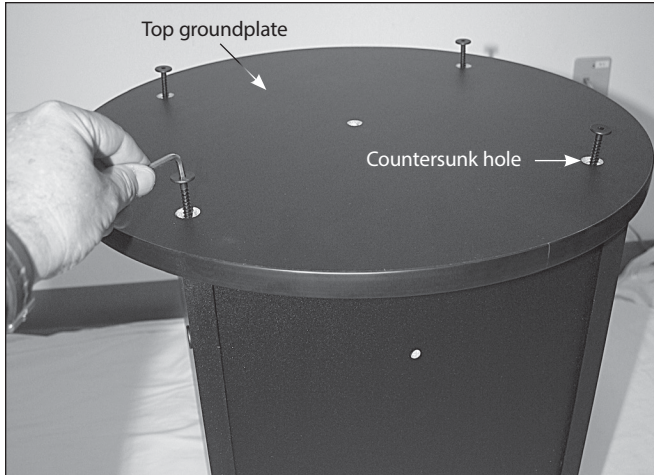

Figure 7. With the front and side panel assembly turned upside down, attach the top groundplate to the assembly with the countersunk holes facing up.
3. Now stand the panel assembly upside down, exposing the bottom edge of the panels. Lay the top groundplate on the panel assembly, aligning the holes in the groundplate with those in the panel edges (**Figure 7**). **NOTE: Make sure the countersunk holes in the ground plate are facing UP.**